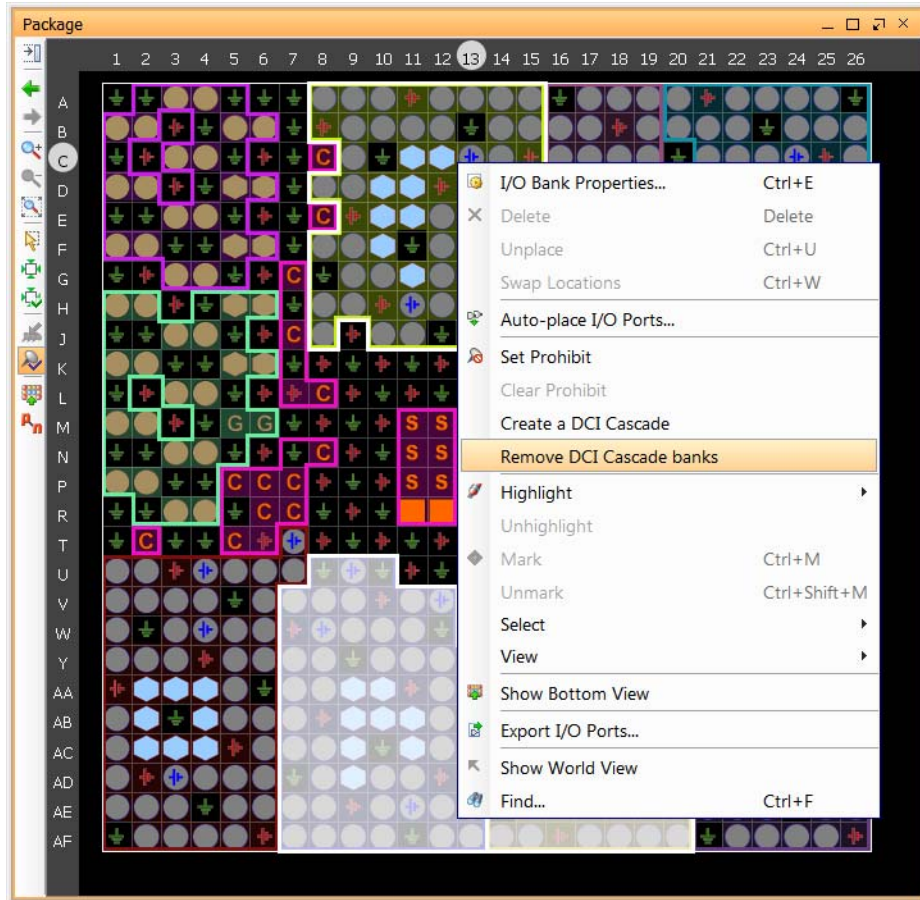

Figure 3-12: Removing DCI Cascade Banks
- To remove an entire DCI cascade, right-click the DCI cascade, and select **Remove DCI Cascade Banks** from the popup menu (Figure 3-12).